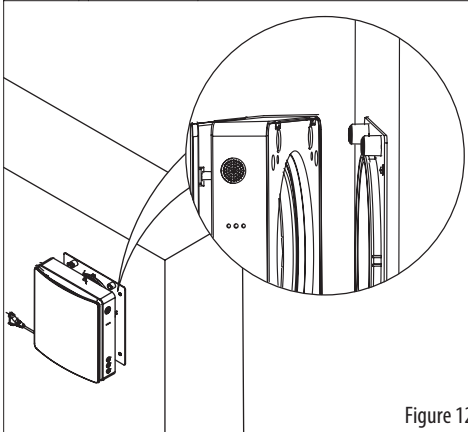

Figure 12
11. Align the concave holes on the back of the ventilation unit with the plastic blocks protruding on the mounting plate (Figure 12). The back of the ventilation unit is equipped with a magnet that will automatically attract to the mounting plate on the wall. No other operations are required.